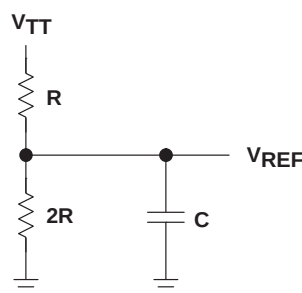

Figure 5. GTLP  $V_{REF}$  Resistor Network
- Differential input – FB+ devices have a fixed differential input set at 1.55 V, whereas GTLP devices have a variable differential input that is set via the external  $V_{REF}$  control pin. Normally,  $V_{REF}$  is two-thirds of  $V_{TT}$  so that, when  $V_{TT}$  is 1.5 V,  $V_{REF}$  is 1.0 V. As shown in Figure 5, the GTLP reference level is set by this simple R/2R resistor network, with R typically being a one-fourth-watt resistor in the range of  $1\text{ k}\Omega \pm 1\%$ . The advantage of this external  $V_{REF}$  and R/2R network is that it maintains the upper and lower noise margin if  $V_{TT}$  fluctuates. The maximum input  $V_{REF}$  current to a GTLP device is 10  $\mu\text{A}$ . A 0.1- $\mu\text{F}$  to 0.01- $\mu\text{F}$  bypass capacitor should be located as close to the  $V_{REF}$  pin as possible to stabilize the voltage.